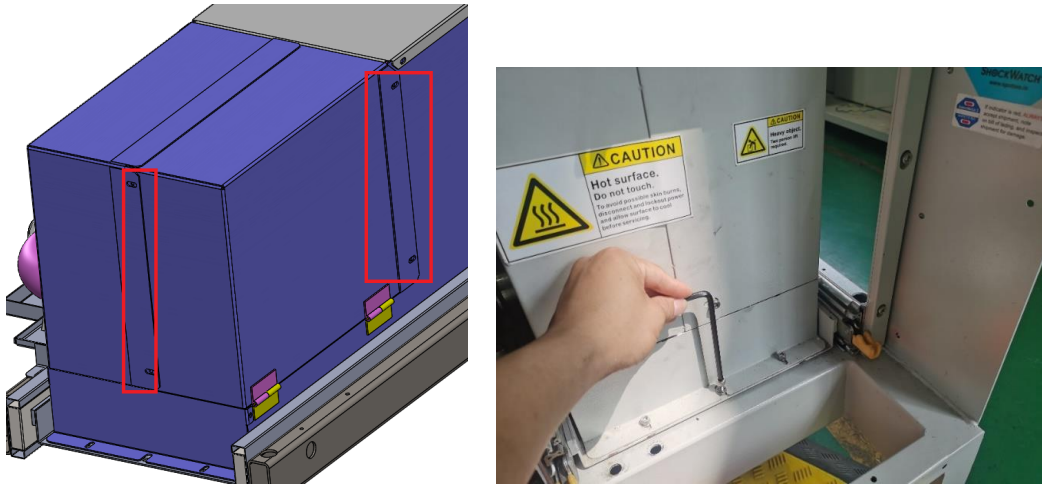

Fig 22
22. Reinstall the reactor front cover and locate the reactor box in position (See Fig 22)